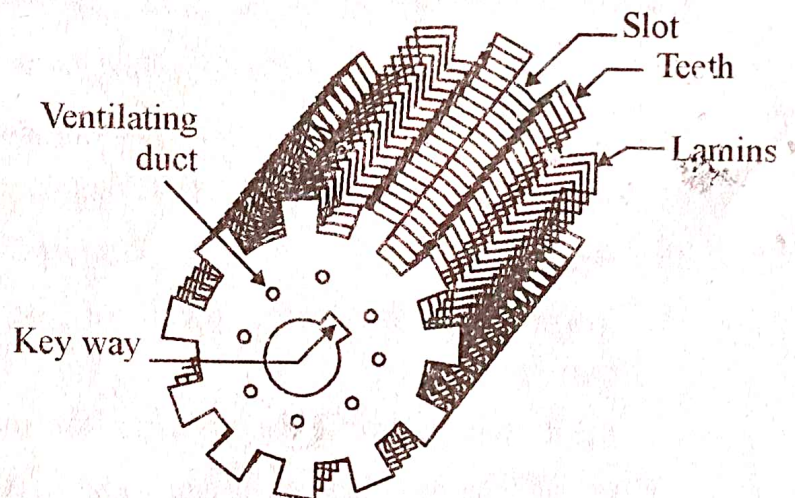

Fig. 5.7 Armature core
- (a) **Armature Core** : The armature core is a solid cylindrical structure. It is made of high permeability thin silicon content steel laminations. The outer periphery of the core has slots to carry armature winding as shown in fig. 5.7.